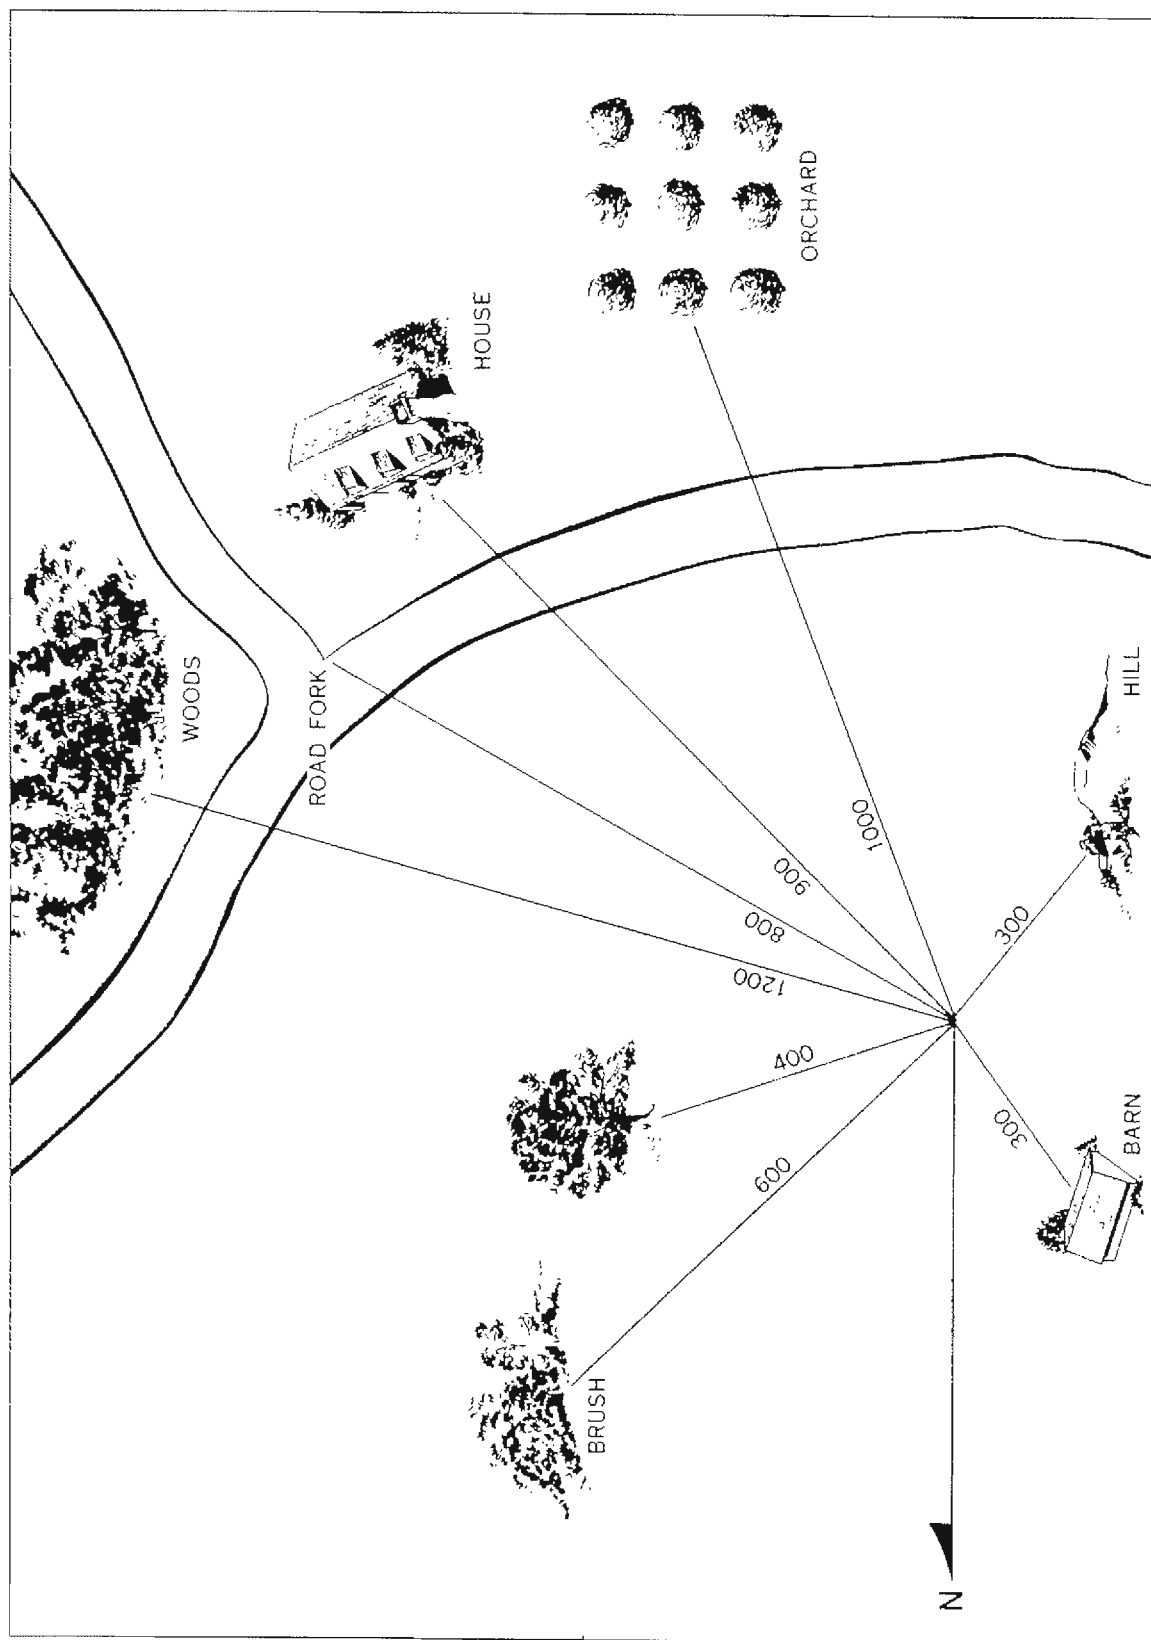

Figure 33
(3) Preparation.--Range cards should be prepared immediately upon occupation of position. They should be prepared as soon as possible for all positions, including alternate and supplementary.
(4) Form.--A simple range card of the type shown in fig. 33 should prove adequate for the needs of a gun commander. It should show the gun position, direction of magnetic north, field of fire in the sector, which for tank destroyers is 6400 mils, prominent features of terrain, and ranges thereto. To aid persons using the range card the compass or magnetic azimuth to each target may be placed on the range lines to the various terrain features if the position is to be occupied for any length of time.